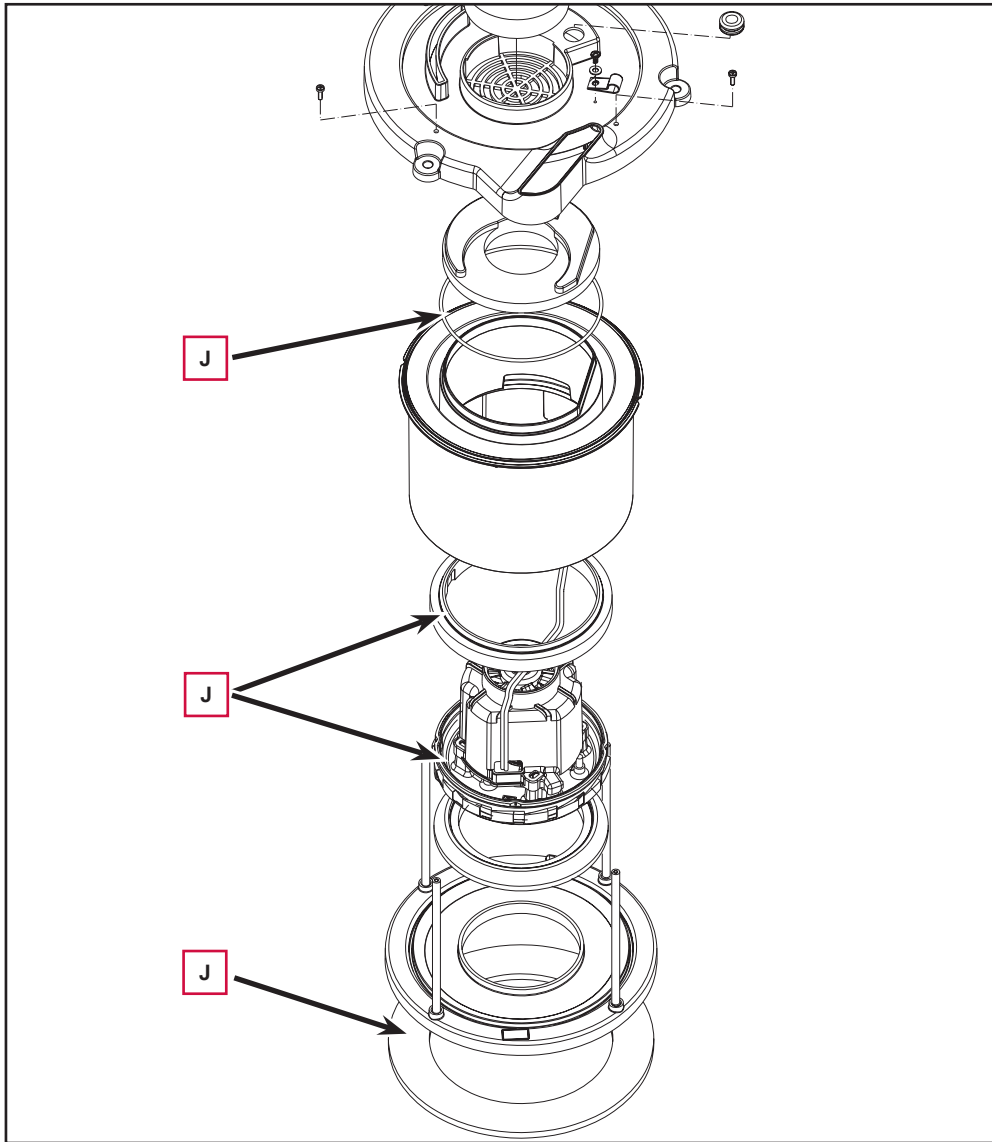

Figure 10
10. Clean the inside of the containers from any dirt that has settled and check all gaskets (J) (Figure 10) for wear; replace if necessary.